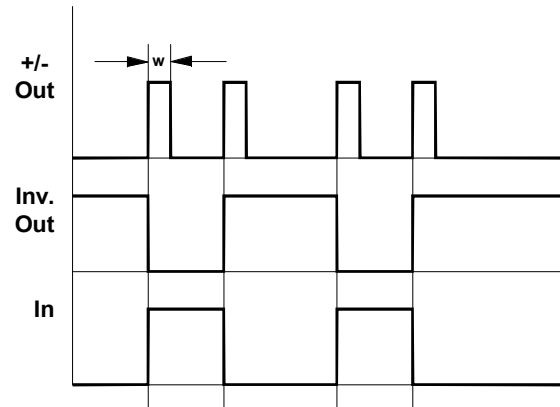

Fig. 1: How the A-165's outputs relate to the input.
③ Inv. Out
The inverted trigger signal is available at **output ③** (see Fig. 1).
④ +/- Out
Output ④ carries the trigger signals generated by both the leading and falling edges of the original trigger signal (pulse length: approx. 50 ms). See Fig. 1.